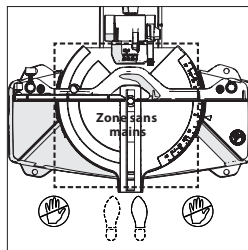

Fig. 7
**(8.3) POSITIONNEMENT DU CORPS ET DES MAINS (FIG. 7)**